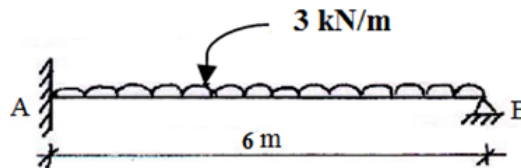

Figure 4
5. (a) Analyse the propped cantilever shown in Figure 4 and draw the shear force and bending moment diagram. [7M]